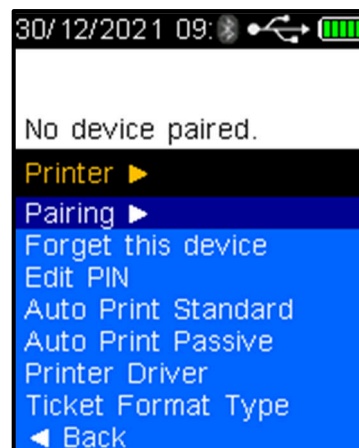

Figure 37 - Pairing Selected
- Select the up button once and use the test key to select Pairing (Refer to Figure 37).